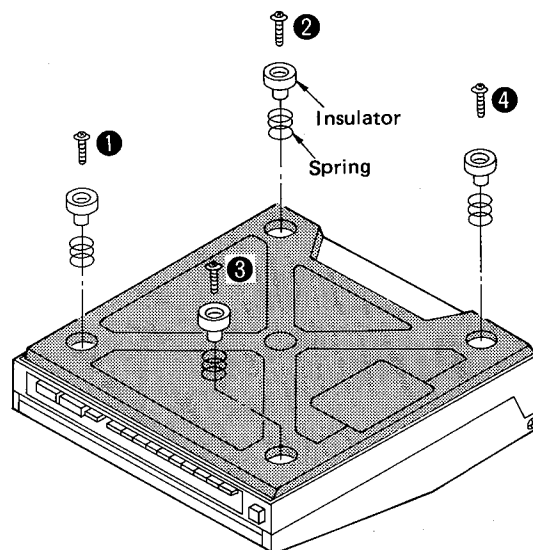

Fig. 2
2. Remove the 4 screws. (Fig. 2 : ① ~ ④)